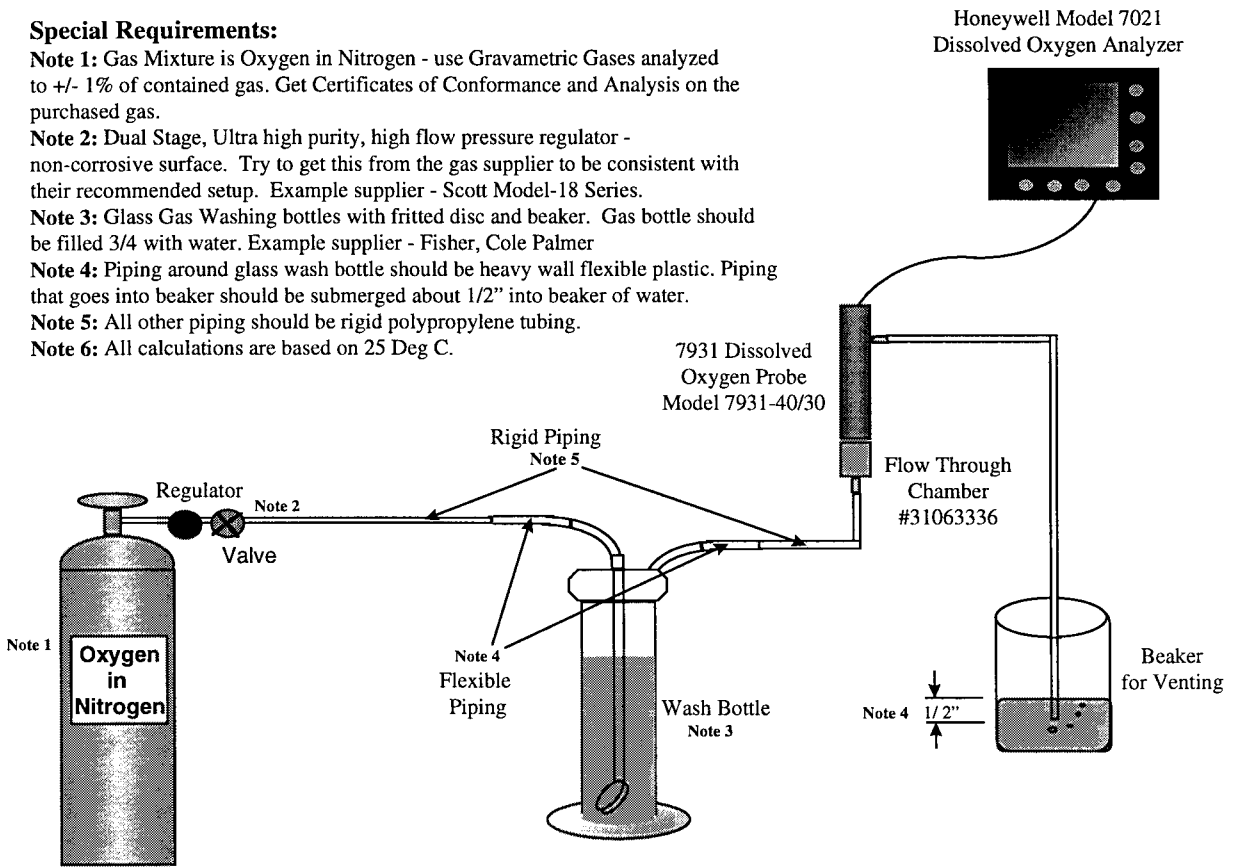

Figure G-1 Suggested ppb Dissolved Oxygen Test Set-up
4. Set-up equipment as shown in Figure G-1.